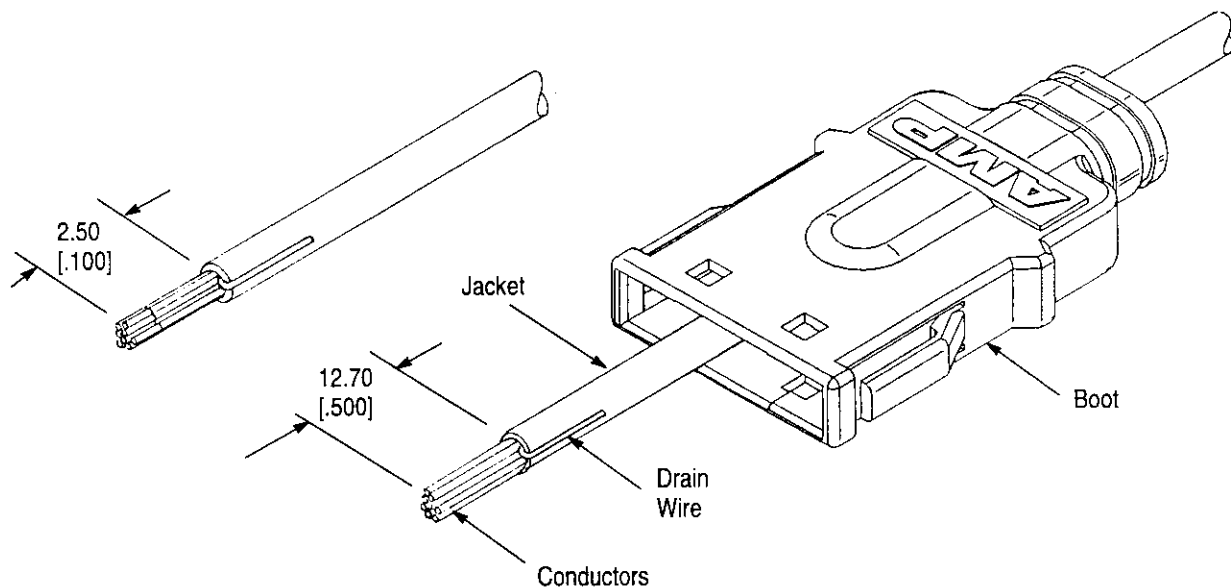

Figure 2
3.2. Cable and Wire Preparation (Figure 2)